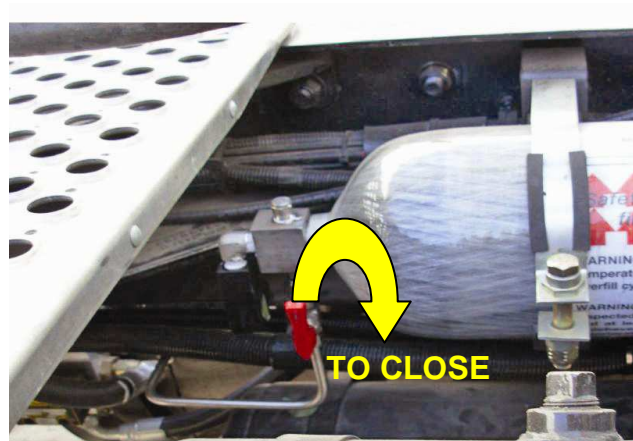

Figure 2. Accumulator shut-off valve, shown in the OPEN (flowing) position.
5. Ensure that the accumulator service shut off valve is in the OPEN position, see Figure 2.